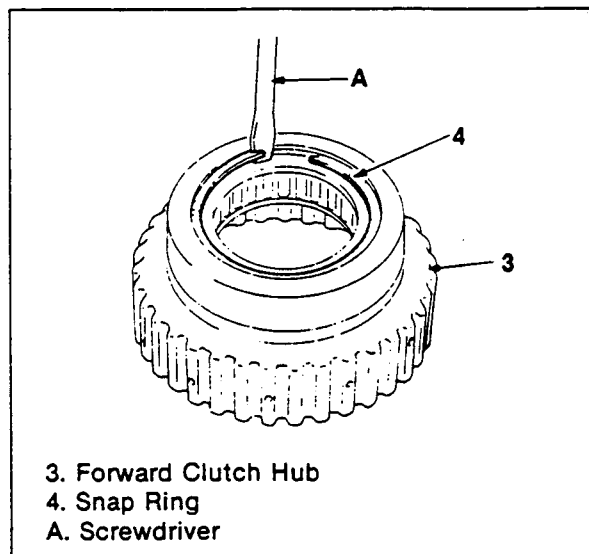

Figure 197. Snap Ring Removal
2. Remove the snap ring and remove the forward one-way clutch and the side race (figure 197).